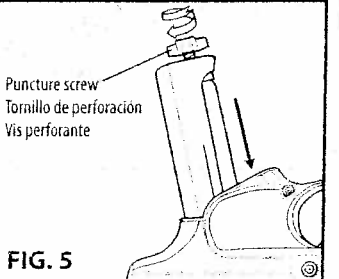

FIG. 5
5. While continuing to hold gun in an inverted position, point the muzzle in a safe direction and turn the puncture screw clockwise to puncture the CO₂ cylinder. (Fig. 5) Continue turning the screw RAPIDLY until finger tight.